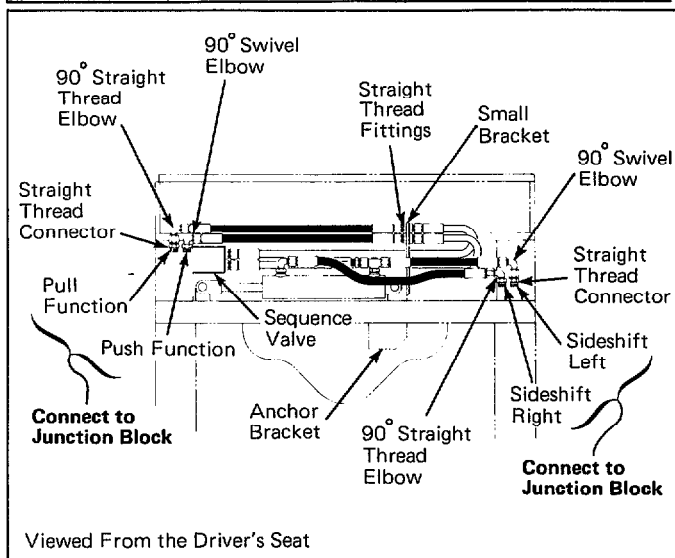

Figure 7. Plumbing for Sideshifting Load Push or Load Push/Pull
1. Install Cascade Attachment Installation Kit No. C-663588 OR plumb No. 6 (minimum) hoses to the truck junction blocks. See Figure 7. Do not pinch, twist, or otherwise damage the hoses.
- Attach the loose push/pull hose ends to the small bracket and the loose sideshift hose ends to the sideshift cylinder. See Figure 7.
6. Connect the push/pull hoses from the small bracket to the ports on the sequence valve. See Figure 7.